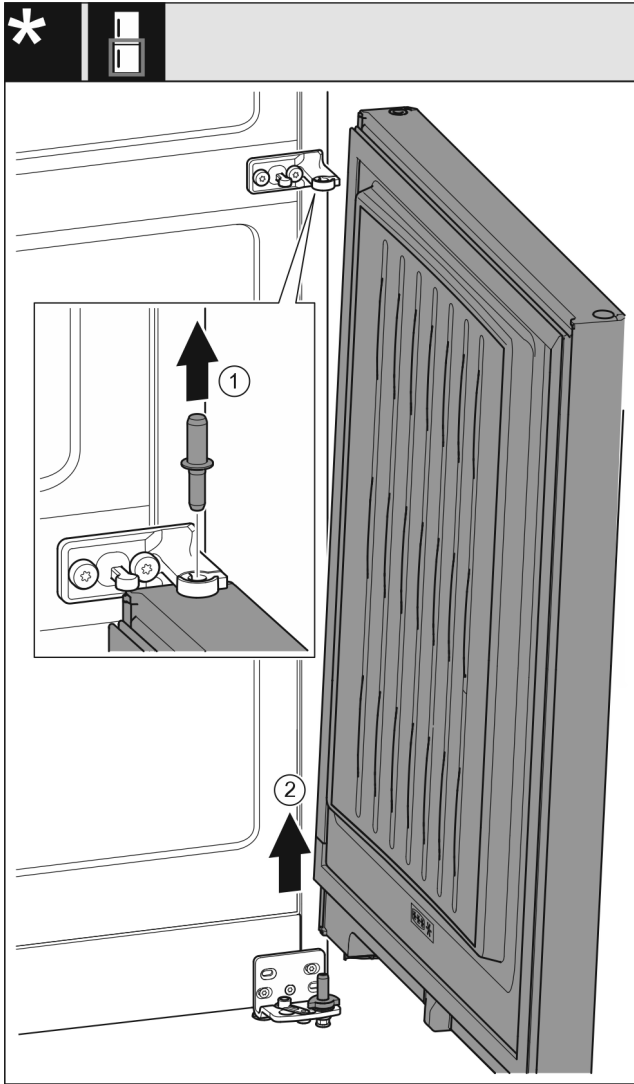

Fig. 31 Without closing damper\*
- ▶ Pull out the bolt Fig. 31 (1) upwards.\*
- ▶ Swing out the door Fig. 31 (2), pull it upwards and set it aside.\*